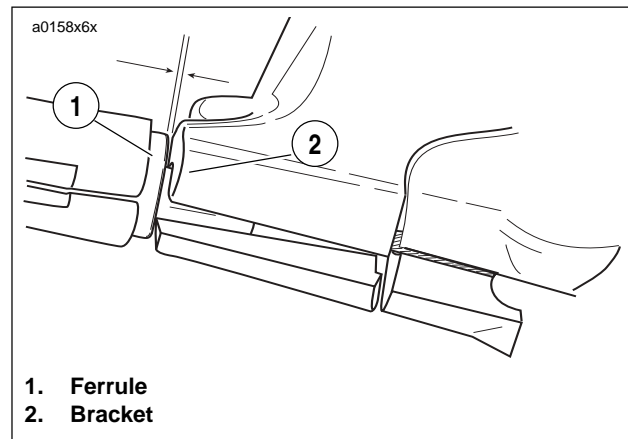

Figure 1-14. Adjusting Clutch Freeplay
5. Remove spring (4) and lockplate (5). Turn adjusting screw (6) counterclockwise until it lightly bottoms.
6. Turn adjusting screw (6) clockwise 1/4 turn. Install lockplate (5) and spring (4) on adjusting screw flats. If hex on lockplate does not align with recess in outer ramp, rotate adjusting screw clockwise until it aligns.
- a. See Figure 1-14. Pull ferrule (end of cable housing) away from bracket. Gap between ferrule and bracket should be 0.0625-0.125 in. (1.6-3.2 mm).